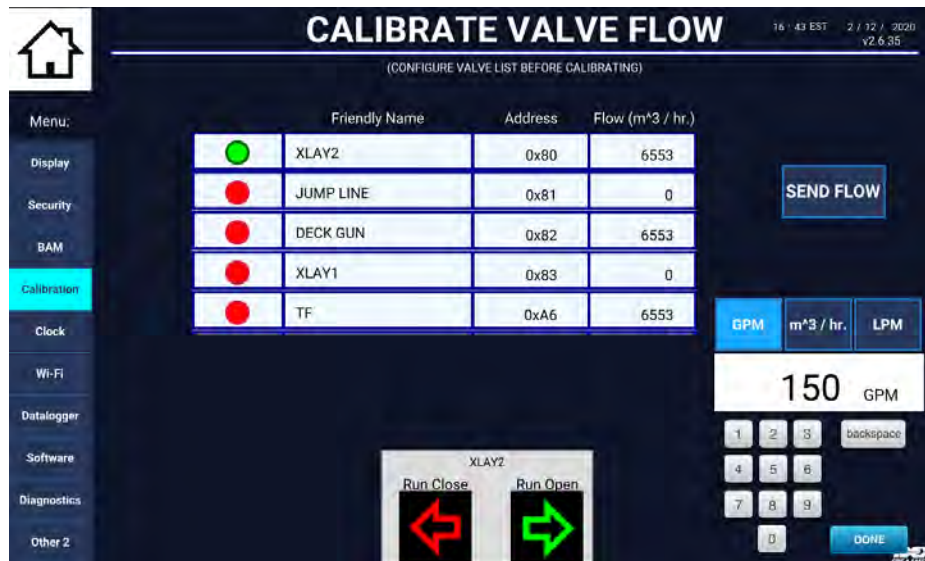

Figure 148. Enter Externally Determined Flow Rate
(See Figure 148.)
- G. Touch and hold Run Open button (see bottom of Figure 148) to fully open valve under test.